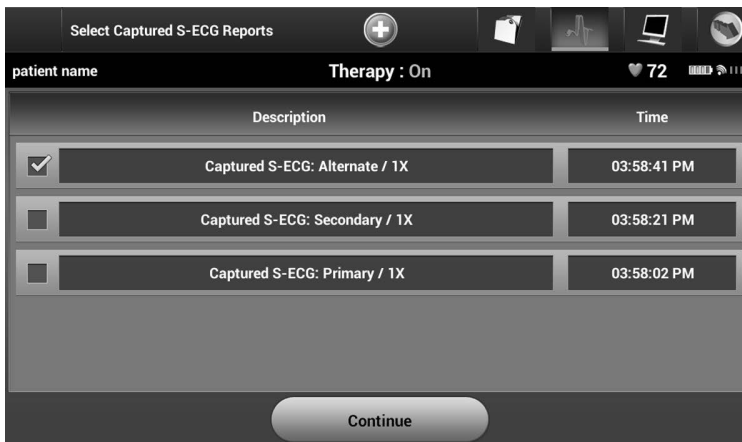

Figure 38: *Captured S-ECG selection screen (scrollable)*
2. A list of the captured S-ECG strips is displayed (Figure 38). Select the Captured S-ECG(s) to be printed. A checkmark appears next to the selected Captured S-ECG.